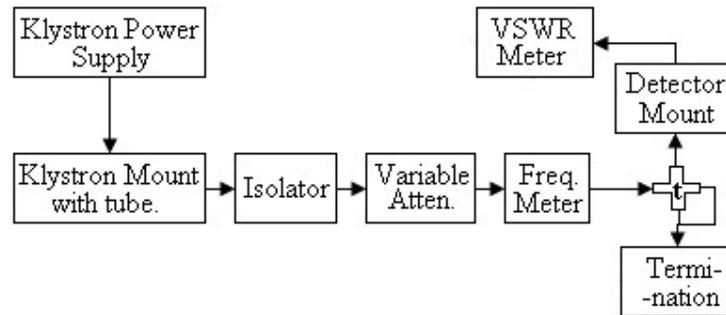

Fig.11 – Block Diagram for Measurement of Magic Tee
5. Assemble equipment as shown in Fig 11. Take care that all the components are mechanically aligned and firmly screwed.
8. Connect the magic Tee as shown Fig. 11.